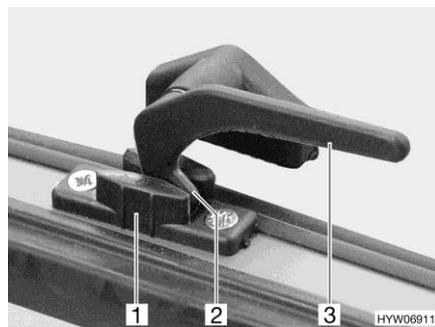

Fig. 56 Catch lever ("continuous ventilation" position)
- "Continuous ventilation" (Fig. 56)
- Turn the catch lever (Fig. 56,3) a quarter turn towards the centre of the window.
- Turn the catch lever a quarter turn towards the window frame. The locking catch (Fig. 56,2) has to be moved into the recess of window catch (Fig. 56,1).